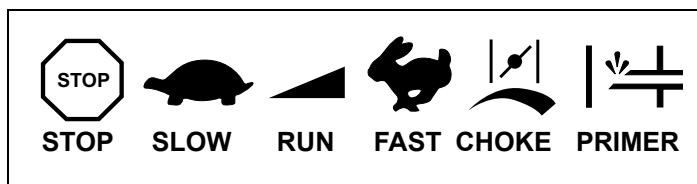

Figure 13. Typical Engine Symbols
2. Move Equipment Control (see equipment manufacturer's instructions) or Engine Throttle Control to "FAST" position. See Figures 13 and 14.